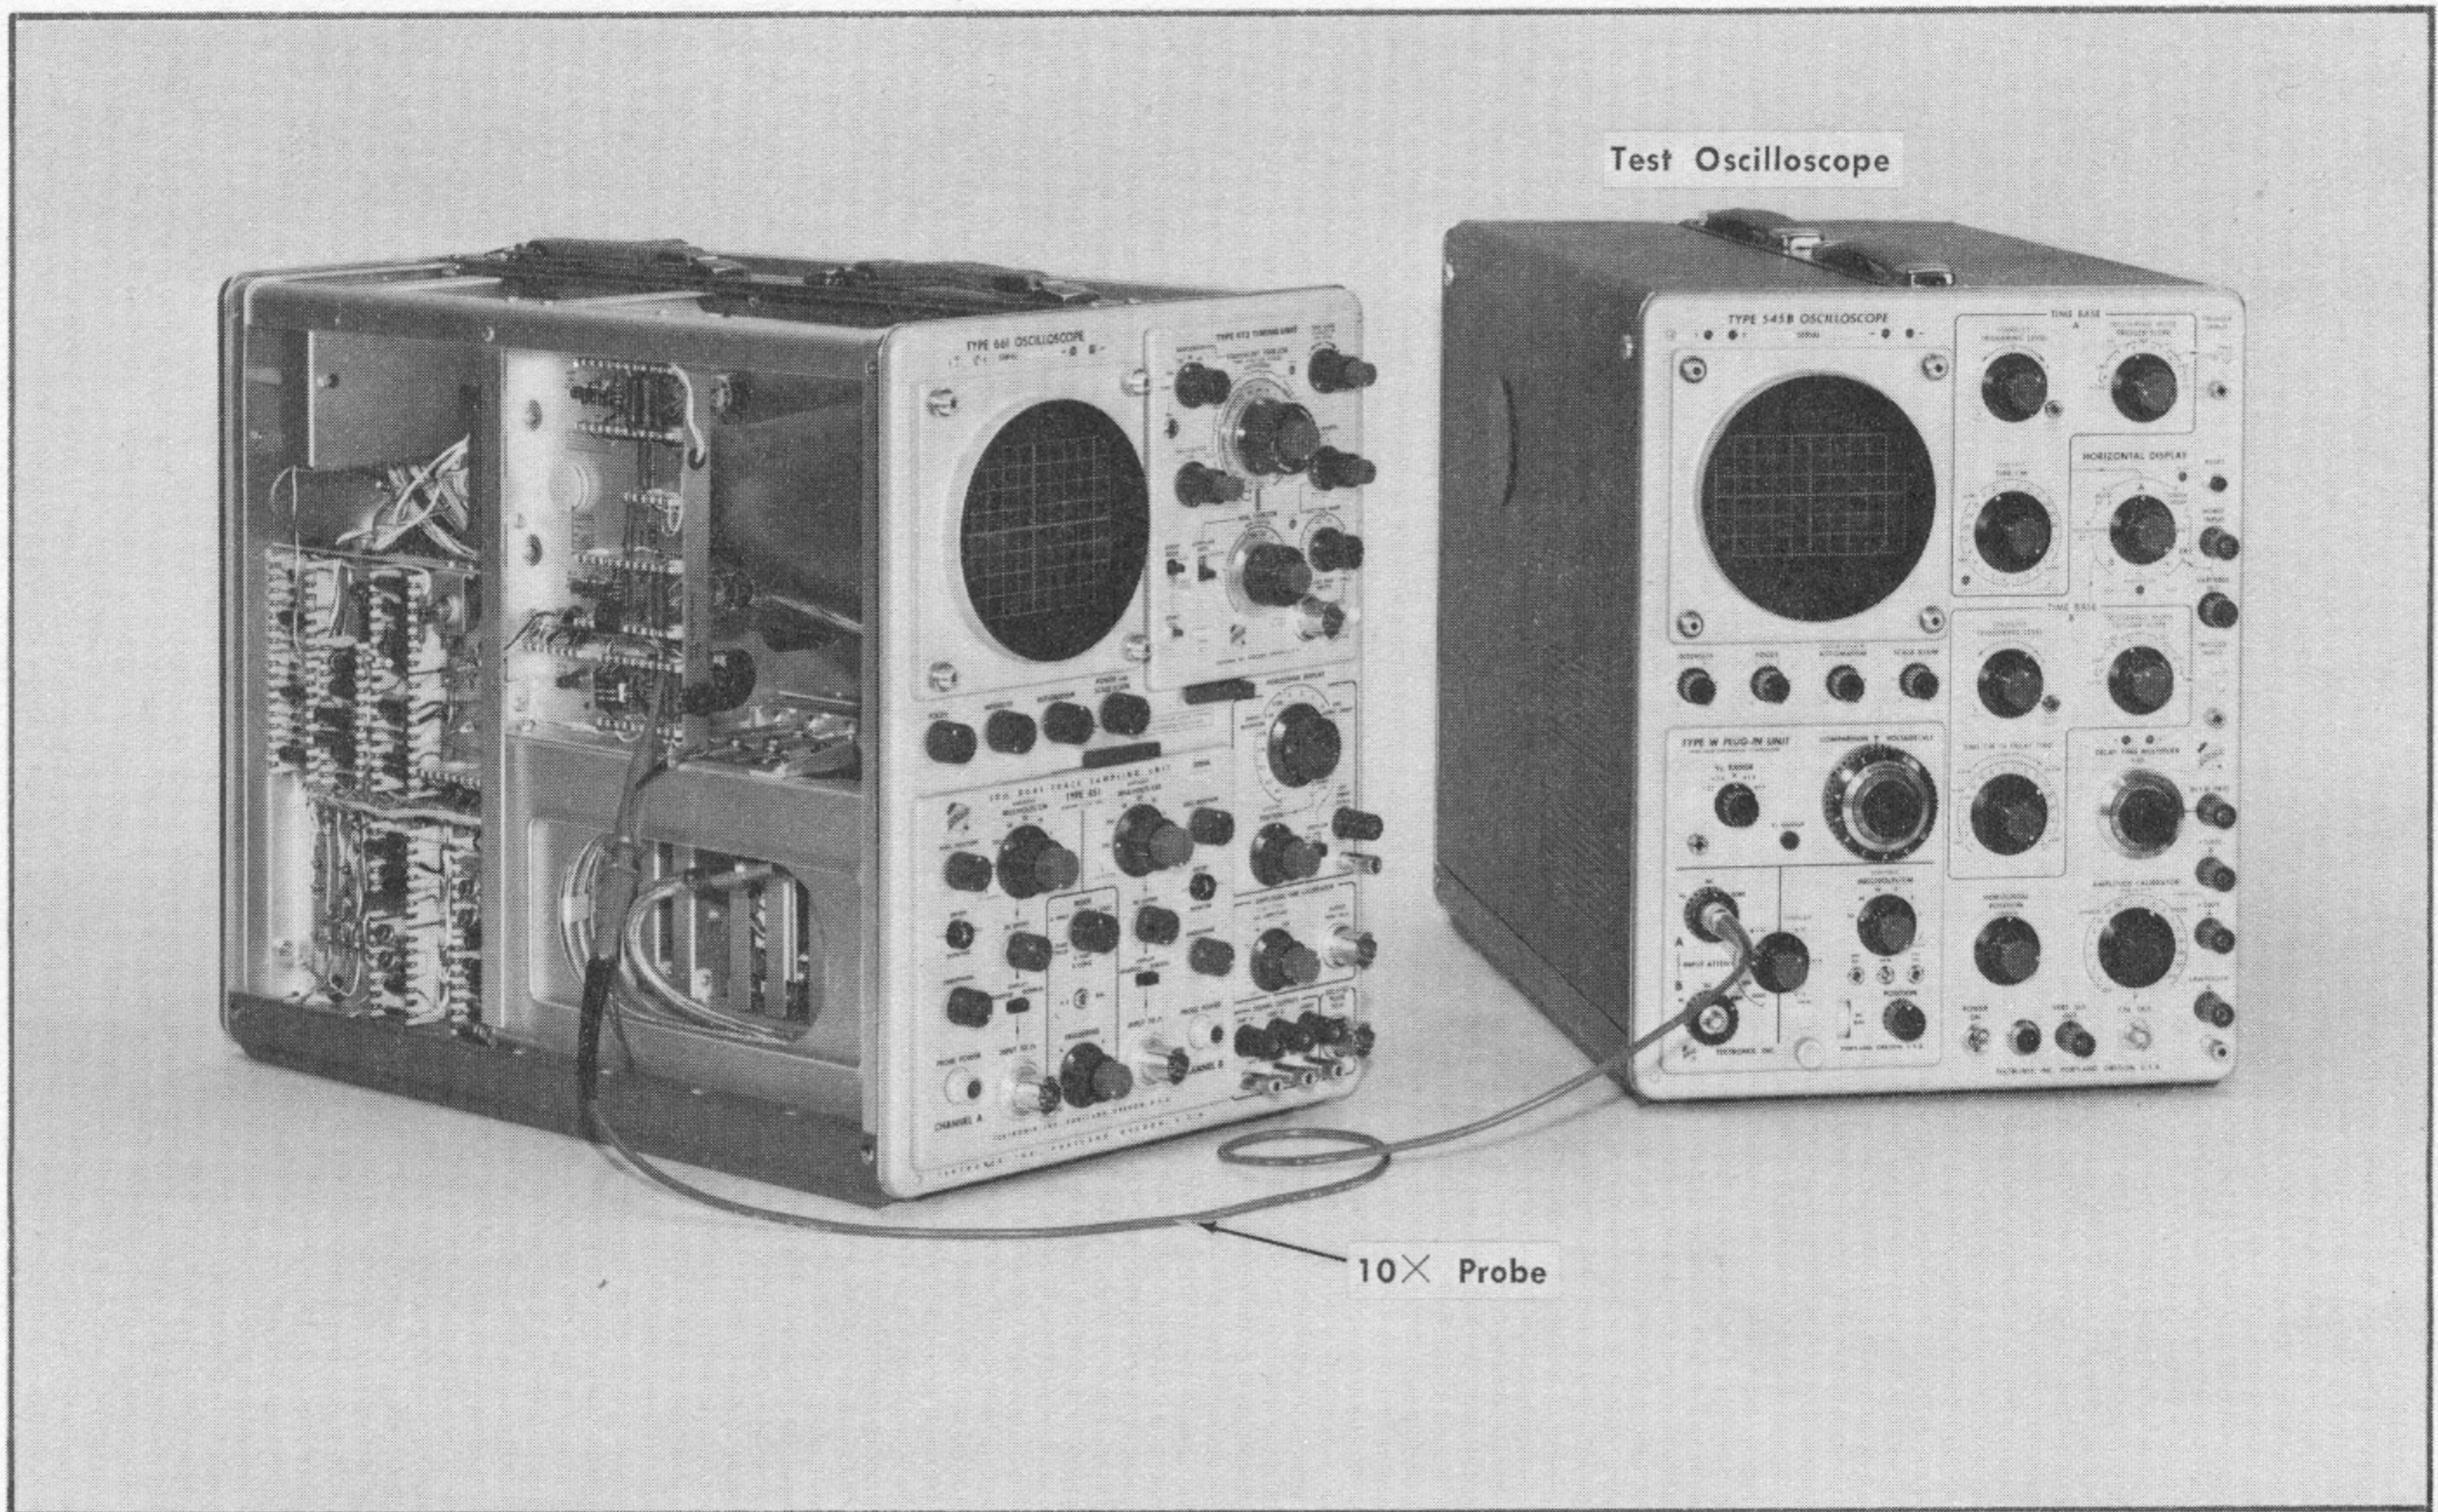

Fig. 6-12. Test equipment setup for step 18.
18. Adjust Horizontal Takeoff DC Level and Gain ❶
- a. Use the equipment setup as shown in Fig. 6-12.